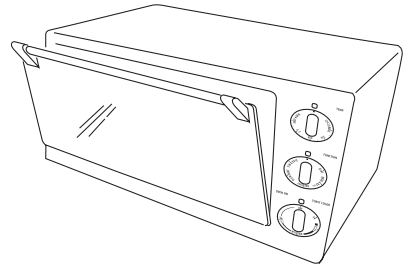

fig. 1
- Place the food to be grilled on the broil rack (Q) inserted on the bake pan (H), and place them together in the guide 1.
- Close the door until you hear a "click" (see figure 1).
- Turn the function selector knob (D) to the BROIL or BROIL & ROTIS position.
- Turn the Timer knob (B) to the "ON" position.
- When cooking is completed, turn the Timer knob (B) manually to the "OFF" position.
- Turn the thermostat knob (A) to position TOAST/BROIL.
- Turn the function knob (D) to position BROIL & ROTIS.
- Turn the timer knob (B) to the "ON" position.